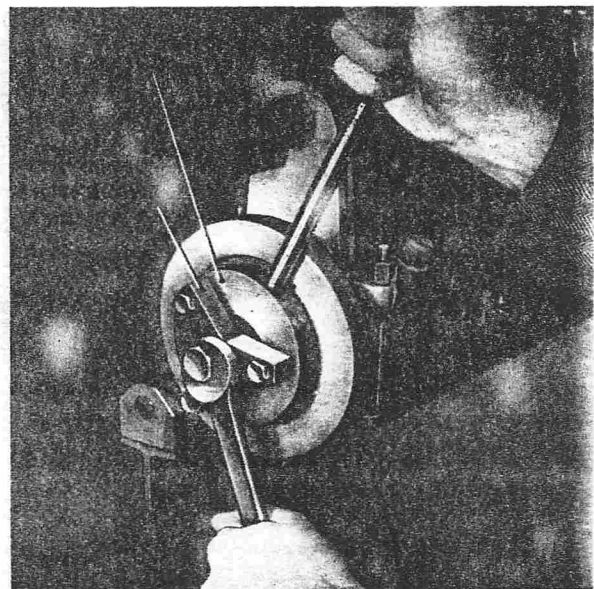

FIG. 30. REMOVING INJECTION-PUMP FLYWHEEL
6. Remove the injection pump flywheel, using the withdrawal and holding tool (Fig. 30.) The removal of the flywheel from the tapered end of the